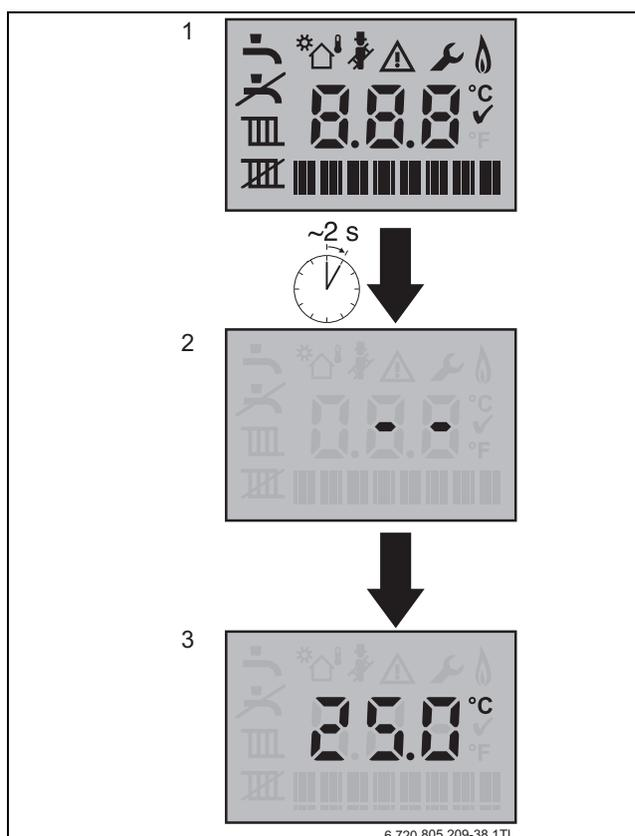

Fig. 60 Start up screens
- ▶ Turn on the mains power supply, initially the “Boiler start up screens” will be displayed (see figure 60:)